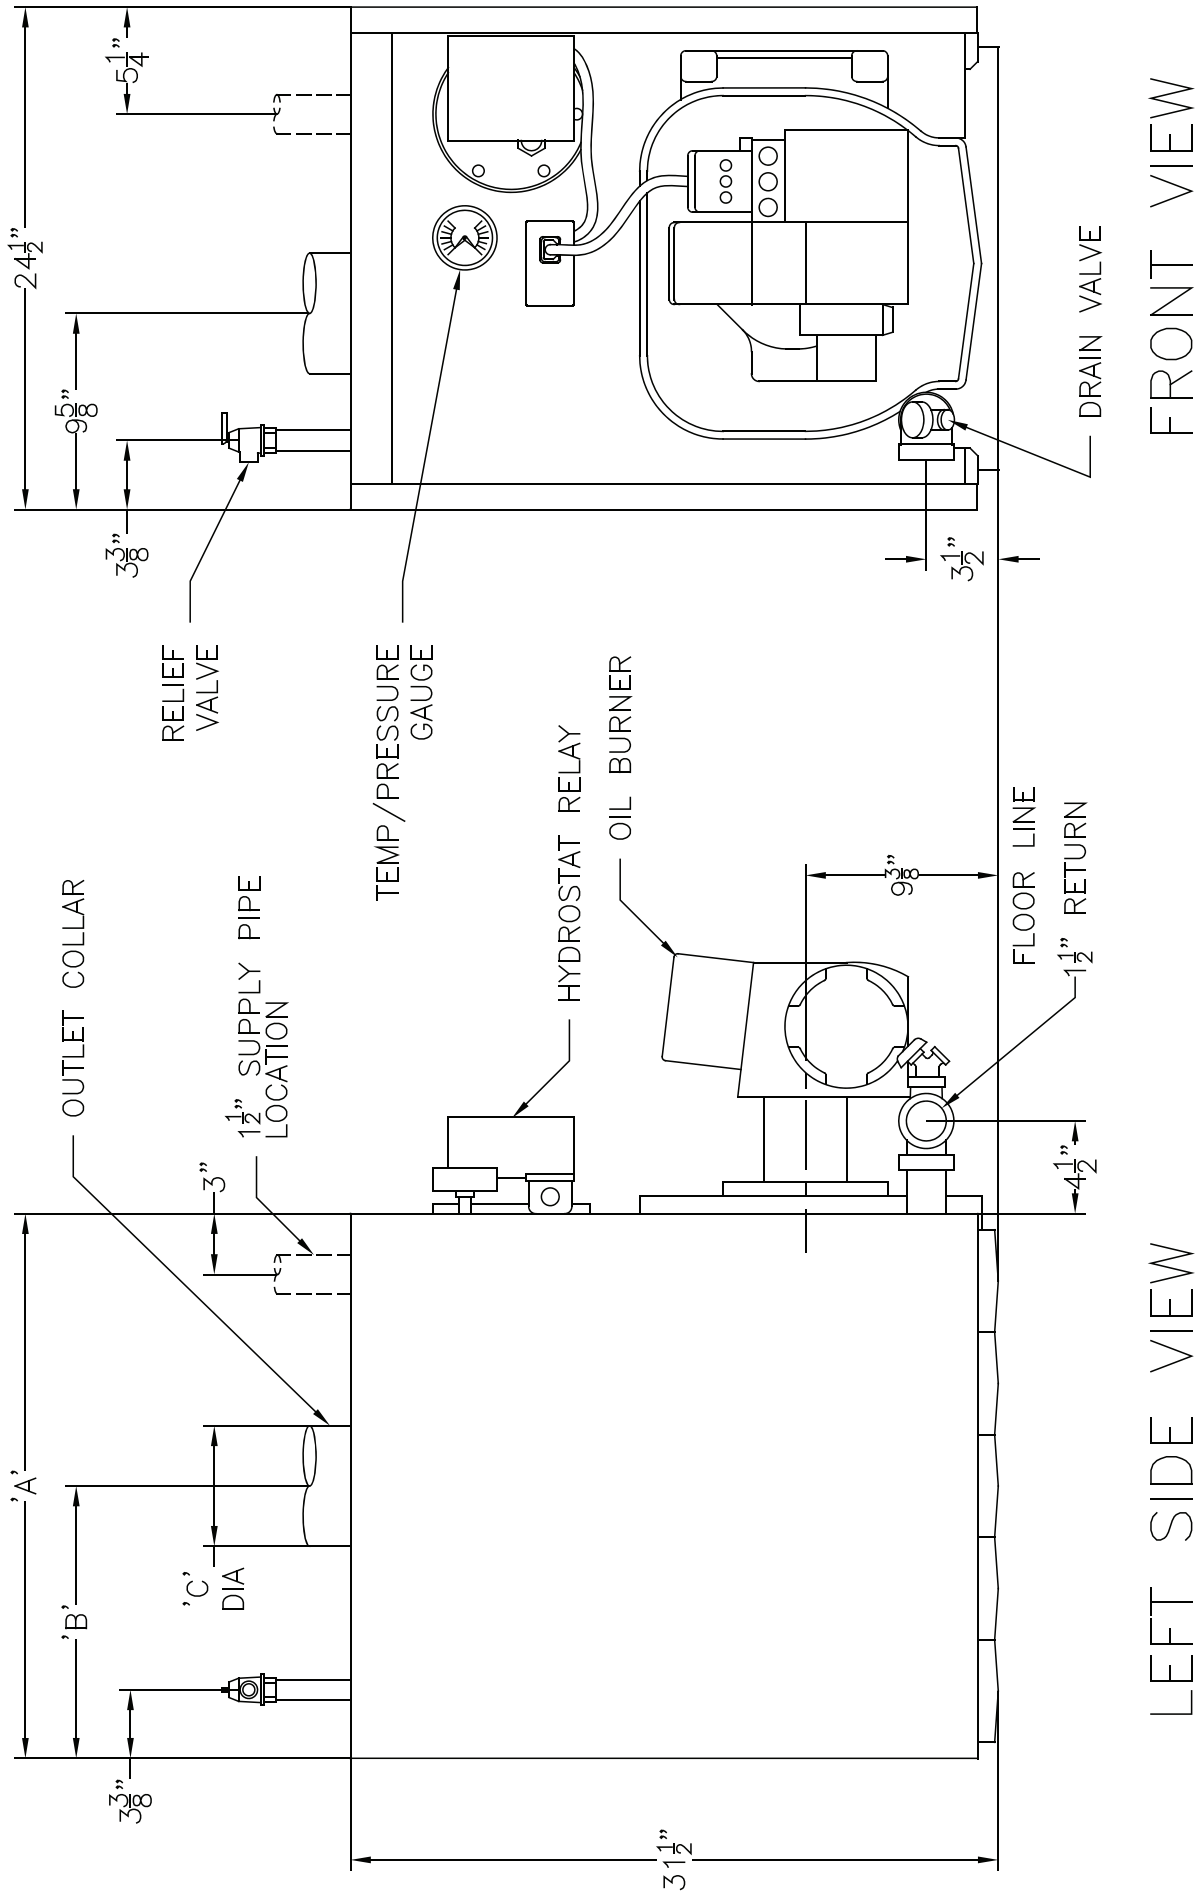
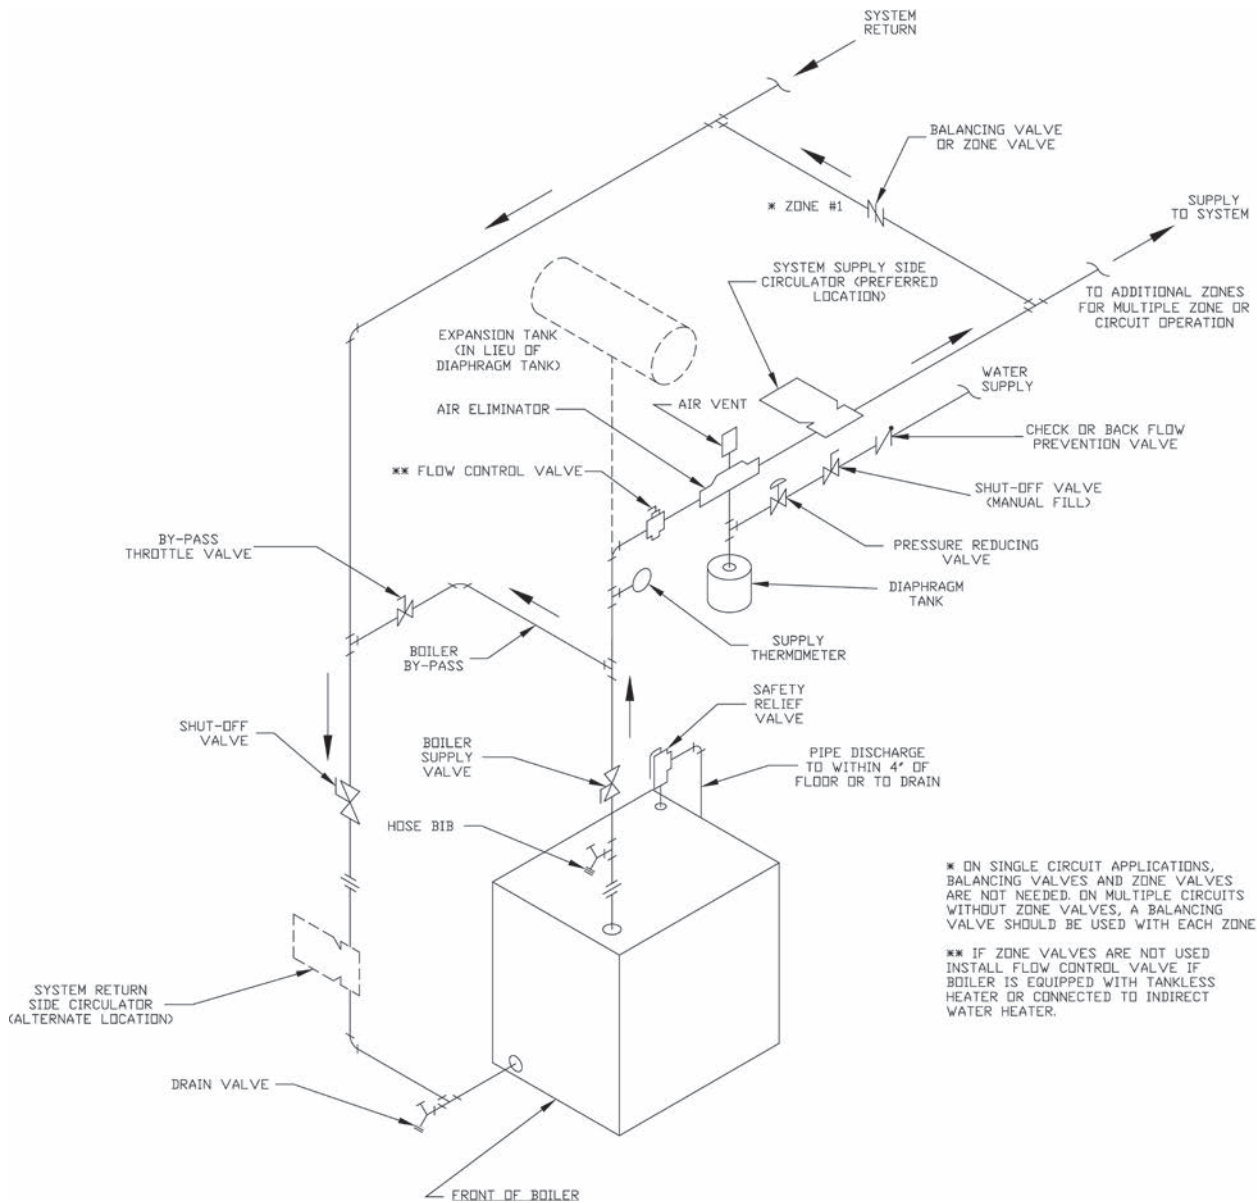

Figure 1: AO(T)-3 Thru AO(T)-5 Water Boiler
Figure 4: Recommended Boiler Piping for Series Loop Hot Water System
2. ANY CLAIMS for damage or shortage in shipment must be filed immediately against the carrier by the consignee. No claims for variances from, or shortage in orders, will be allowed by the manufacturer unless presented within sixty (60) days after receipt of goods.
- B. LOCATE BOILER** in front of final position before removing crate. See Figure 1.
TABLE 1: DIMENSIONAL DATA (SEE FIGURE 1)
E. INSTALL WATER BOILER TRIM AND CONTROLS, (see Figure 1)
5" nipple. Thread ¾" drain valve into ¾" NPT connection on tee. Tighten all joints with wrench until water tight and 1½" NPT return connection on tee is facing away from boiler horizontally to allow for proper burner swing door clearance, see Figures 1 and 4.
2. Thread relief valve onto factory installed ¾" NPT x 7¼" nipple located in left rear corner on top of boiler as shown in Figure 1. Valve spindle must be in vertical position. Tighten with wrench. Pipe discharge as shown in Figure 4. Installation of the relief valve must be consistent with ANSI/ASME Boiler and Pressure Vessel Code, Section IV.
- a. For Forced Circulation HOT WATER HEATING. See Figure 4. Also, consult Residential Hydronic Heating Installation and Design I=B=R Guide.
Install a pipe tee between the circulator and boiler return along with a second tee in the supply piping as shown in Figure 4. The bypass should be the same size as the supply and return lines. Locate valves in the bypass and supply outlet as illustrated in Figure 4 for regulation of water flow to maintain higher boiler water temperature.